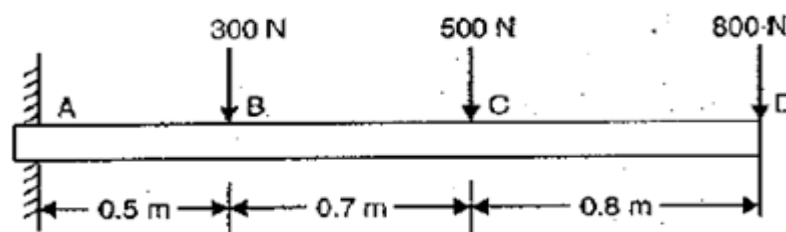

Fig: 2
5. A cantilever beam of length 2m carries the point loads as shown in **Fig. 2**. Draw SFD and BMD for the cantilever beam.(Level – 3) (CO 2)